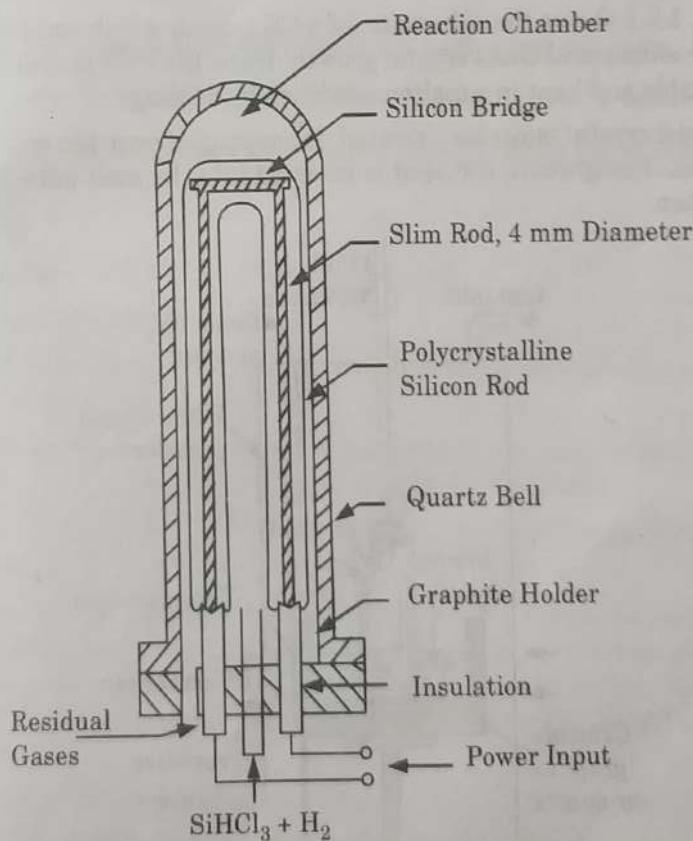

Fig. 1.2.2. Schematic of a CVD reactor used for EGS production.
11. This reaction is conducted in the type of system shown in Fig. 1.2.2. A resistance-heated rod of silicon, called a "slim rod" serves as the nucleation point for the deposition of silicon.